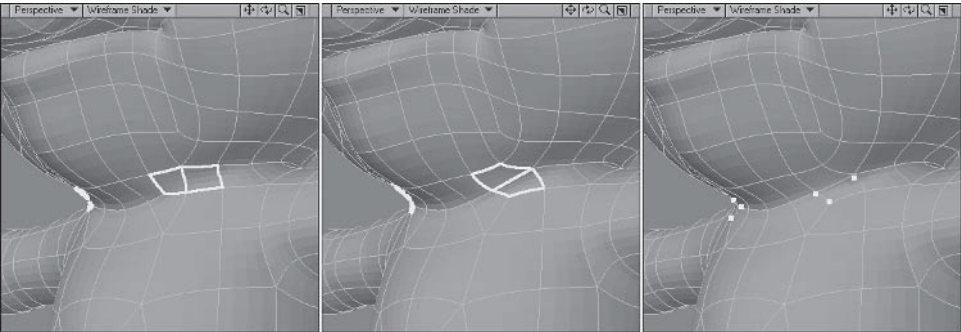

Figure 5.5-24a. Adjusting the polygon flow.
1. Select the two polygons shown in Figure 5.5-24a and **Spin Quads** twice, matching the flow of polygons to the line of the neck.